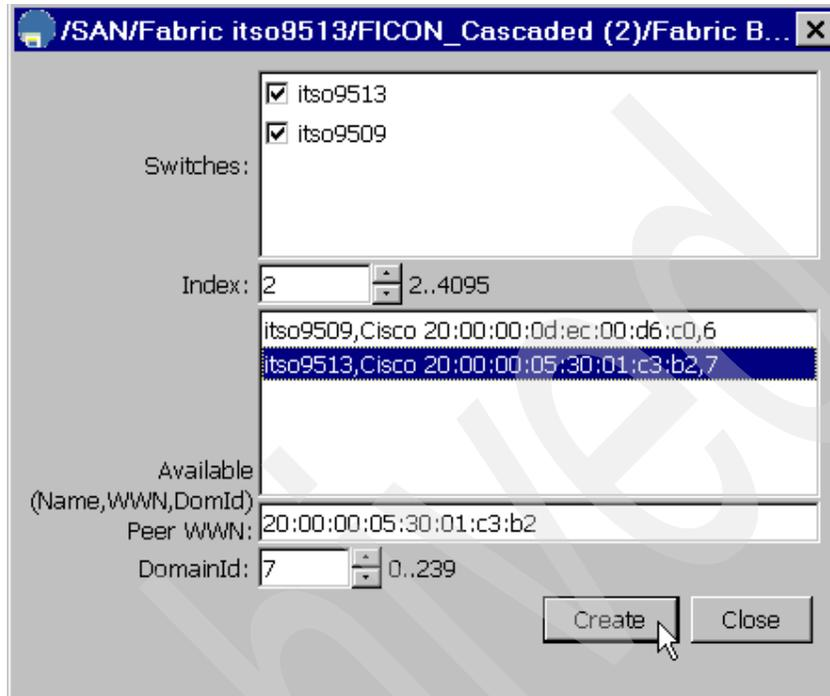

Figure 30 Creation of the fabric binding entry for the 9506 on both switches
- Figure 30 shows adding the 9513 to the fabric binding database of both switches.